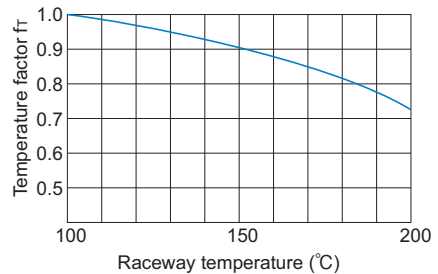

Fig.3 Temperature Factor (f_T)
- f_T : Temperature factor (see Fig.3 on **B5-6**)
If the temperature of the environment surrounding the operating model ST exceeds 100°C, take into account the adverse effect of the high temperature and multiply the basic load ratings by the temperature factor indicated in Fig.3.